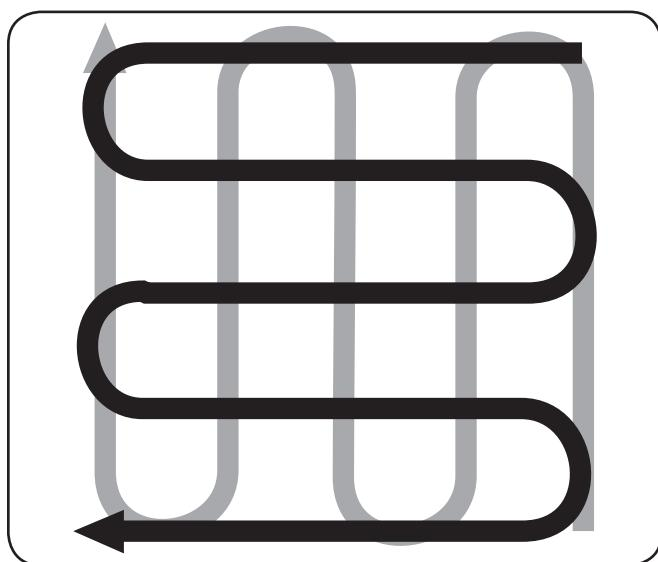

Figure 5-6
- When finished in one direction, make a second pass at a right angle, as shown in Figure 5-6. Overlap each pass for the best results (in very hard ground, it may take three or four passes to thoroughly pulverize the soil.)